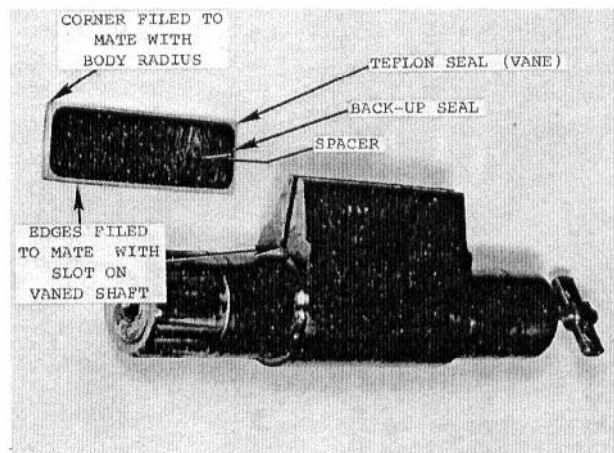

Fig. 57 — Shaping Teflon Seal for Moving Vane Shaft
5. Preassemble the back-up seal and vane teflon seal onto the vane spacer ... see Fig. 57.
6. Use a suitable file to **SHAPE** the edges on one side of the vane teflon seal to mate with the slot in vane shaft ... the seal should fit all the way down into this slot ... see Fig. 57.